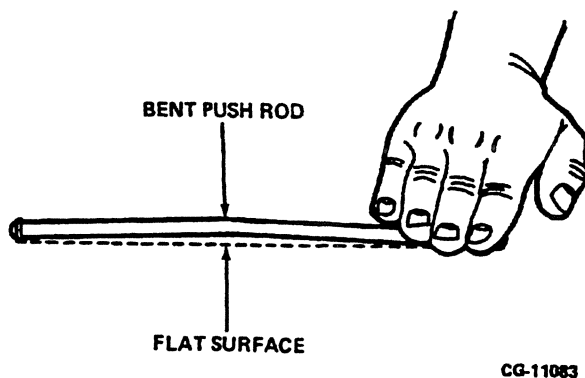

Figure 4.22. Checking Push Rod for Straightness
3. Check all push rods for straightness by rolling on a flat surface, Figure 4.22.